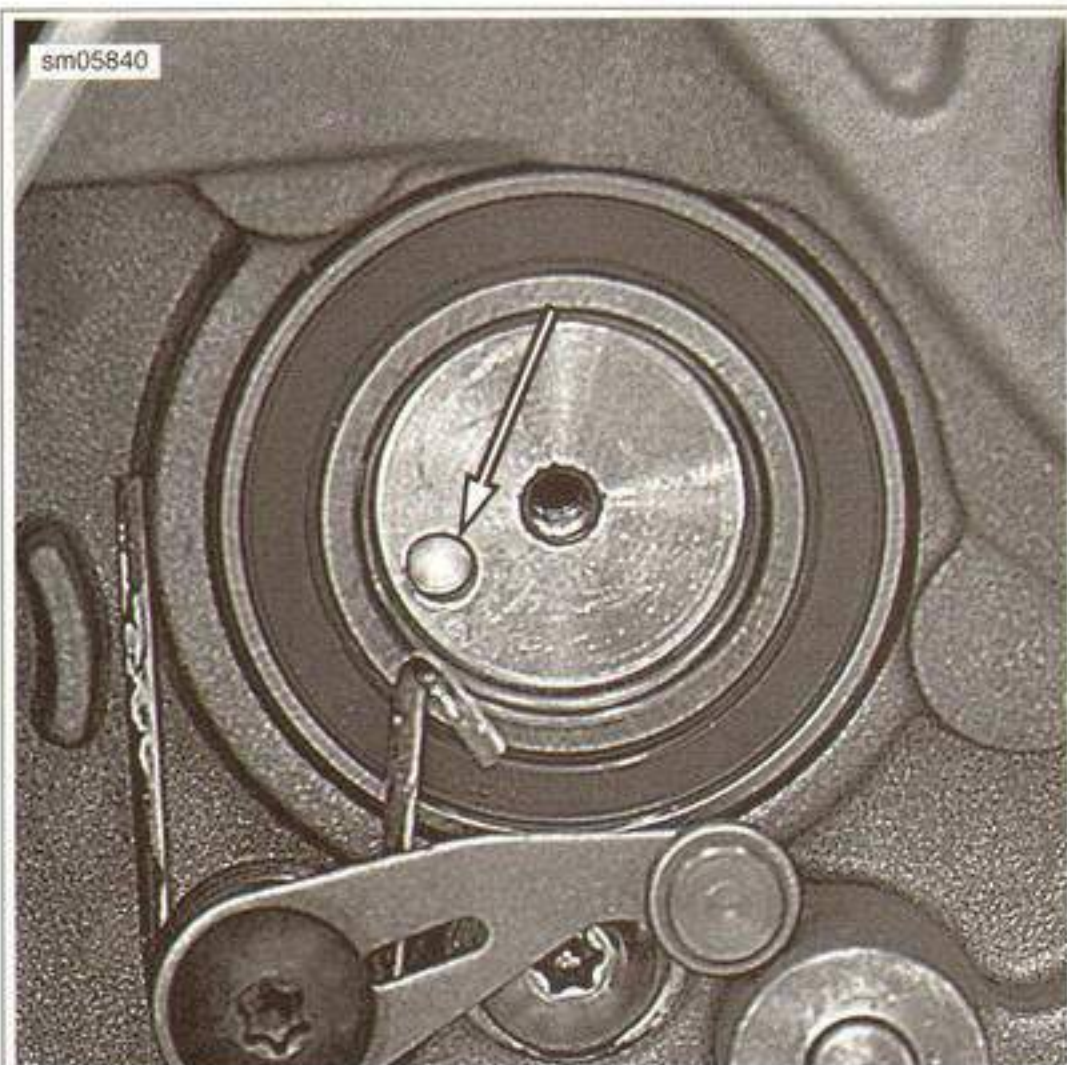

Figure 6-69. Index Shim/Fork Drum Locating Pin
2. See Figure 6-69. To install, fit index shim locating pin to shift drum bore.